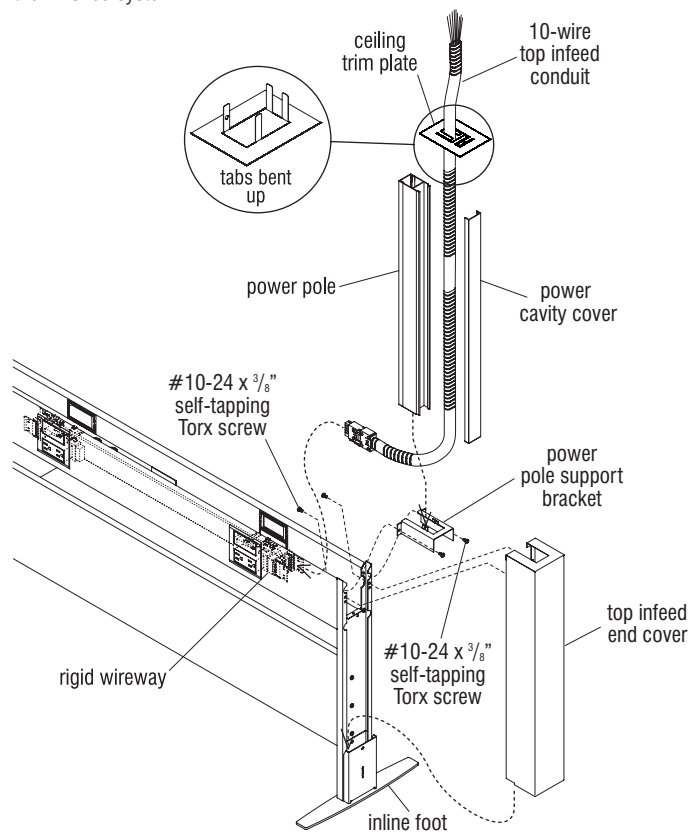

Figure 7 - End Top Infeed Power
1. Per the space-planning layout, determine which chase assembly end will have 10-wire top infeed conduit. Begin top infeed installation by first removing the upper two #10-24 x $\frac{3}{8}$ " self-tapping Torx screws which attach the chase leg of the chase assembly to the horizontal beam of the assembly. Next, locate and position a power pole support bracket over the same mounting holes where the above screws were removed, and re-attach the bracket over the leg and into the end of the trough using the same screws (Figure 7).
2. As illustrated, snap the plug-end of the 10-wire top infeed conduit into the end of the rigid wireway in the trough assembly and let the remaining flexible conduit run up through the opening in the power pole support bracket (Figure 7).
Note: The power cavity cover is shown removed in Figure 7. Pole and power can be run up into the ceiling in different ways, with the covers on or off for power and data installation. The steps below outline just one way.
5. Route the 10-wire end of conduit up into the assembled, cut-to-size (step 4) power pole. Take a ceiling trim plate and bend the four tabs up, just less than 90° at the side that will face the ceiling (Figure 7). Push the ceiling trim plate up tight to the ceiling at the hole which was cut in step 3, inserting tabs through ceiling opening, then bend the tabs out to secure plate to ceiling. Push the 10-wire ends of the power infeed out through the pole, and press the pole and wires into the area above the ceiling (Figure 7 & Detail A).
6. Push the top of the power pole up through the ceiling trim plate and into the opening cut in the ceiling high enough to allow the bottom of the pole to move over and fit down over the power pole support bracket. Set the bottom of the power pole down to rest on the power pole support bracket such that the tabs capture the divider in the power pole (Figure 7).
7. Take the top infeed end cover and position it with the power pole cut-out to the top as illustrated and raise it over the inline foot at the power infeed end. Simply insert the bottom open end of the top infeed end cover over the upright bracket of the inline foot and slide it down. At the top of the top infeed end cover, use a 6" long T-25 driver bit to attach two #10-24 x $\frac{3}{8}$ " self-tapping Torx screws through the chase leg of the chase and into the top infeed end cover as illustrated (Figure 7).